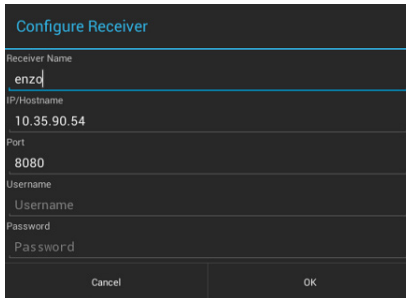

**FIG. 45** Enzo - Successful Test Message
7. To test the connection, press the *Share Content* icon in the *RECEIVER LIST* to send a test message to the Enzo unit. If the Enzo is communicating properly with the panel, it will indicate the test message on its connected display (FIG. 45):